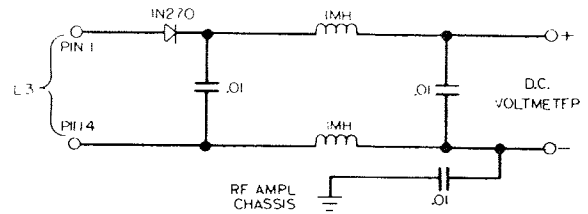

Figure 6.5 – Feedback Detector Test Circuit
- a. Connect feedback detector test circuit to terminals E157 and E158. See figure 6.5.
- c. Connect a DC voltmeter to the detector circuit as shown in figure 6.5.